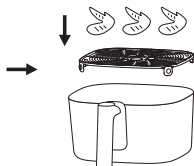

Fig 14
- ② Make sure silicone rubber is on the crisper bracket, and place the crisper plate correctly in the frying pot (with four legs facing downward)(Fig 14).
- ③ Lay the marinated chicken wings flat on the crisper bracket(Fig 14).